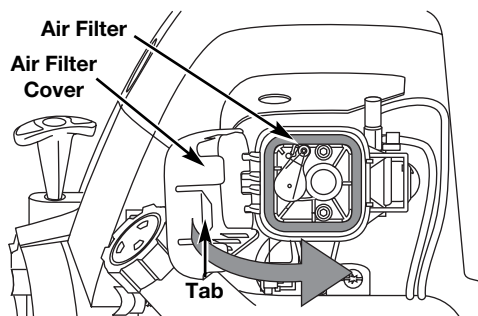

Fig. 31
8. Swing the cover to the right until the tab on the air filter cover snaps into place in the slot on the back plate (Fig. 31).